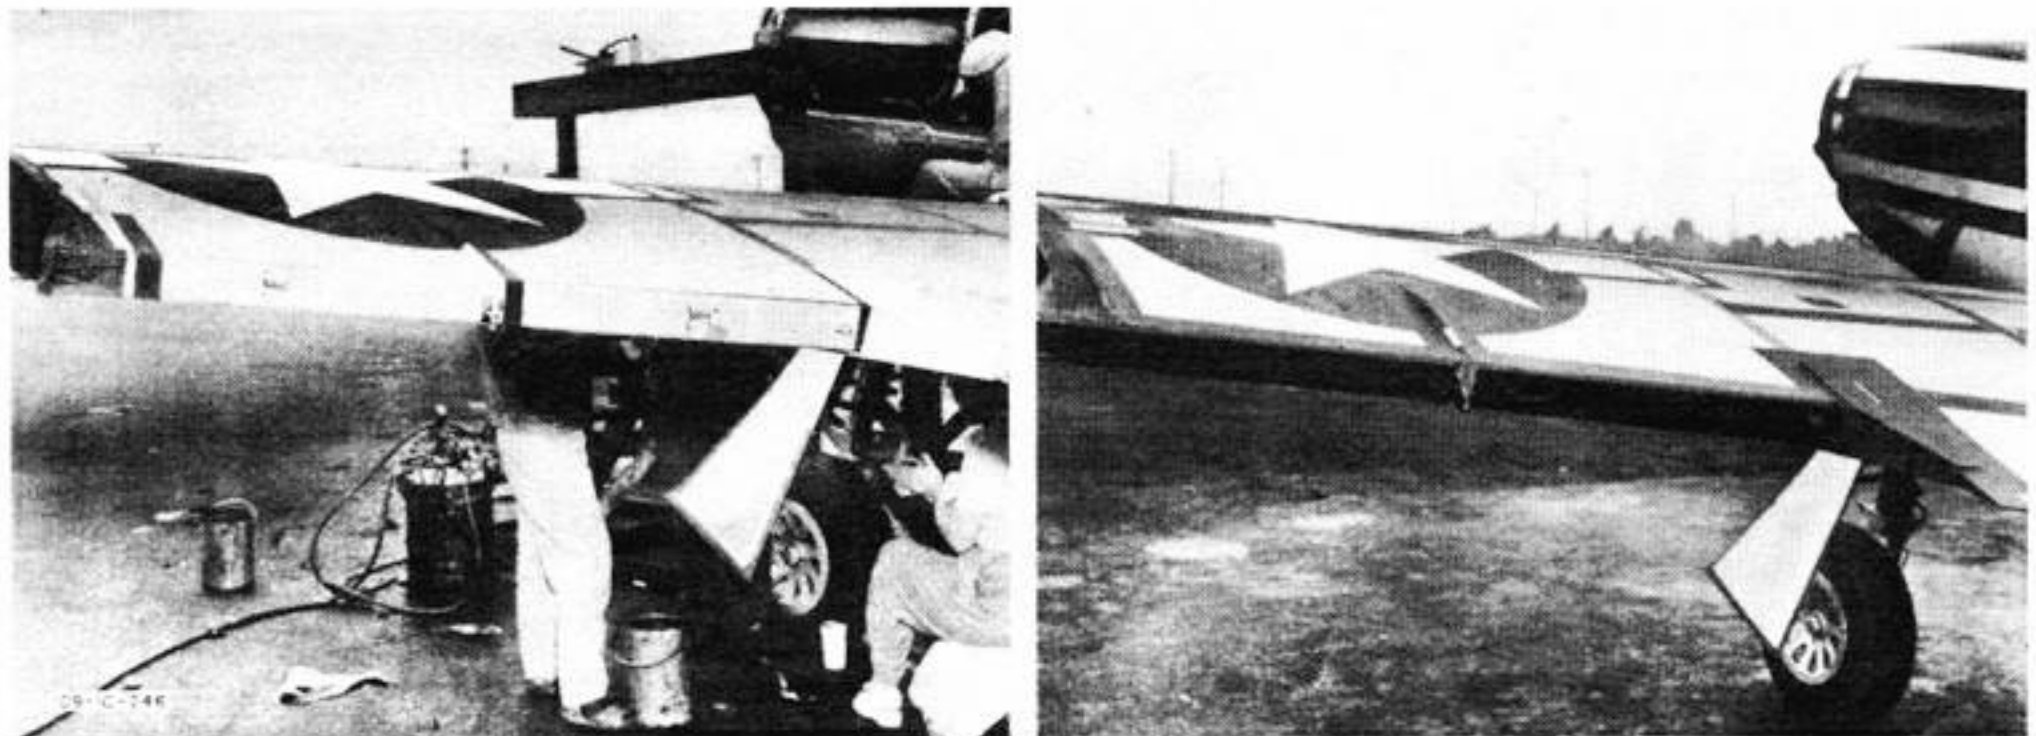

Figure 18—Sealing Trailing Edge of Wing
- e. Place shield over opening, thread wire through holes in shield, and twist wire with pliers until shield is tight. Cut off excess wire and bend twisted ends flat against shield. (See figure 18.)